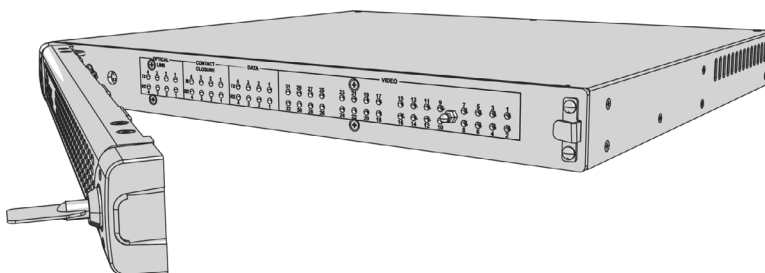

Figure 15. Removing the Bezel
2. To detach the bezel from the unit, pull the right side of the bezel toward you—be careful not to drop the bezel (refer to Figure 15).